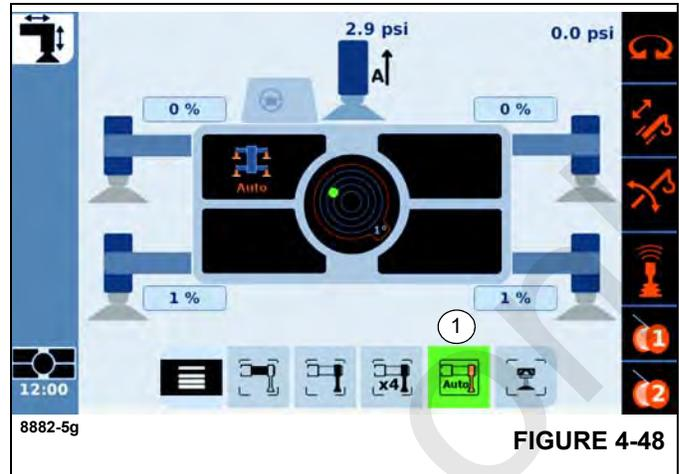

FIGURE 4-48
To extend or retract the outrigger jack cylinder, refer to (Figure 4-48) and Table function.
**B.** From the Superstructure Cab ODM, select the auto-level button (1), (Figure 4-48). The crane will: